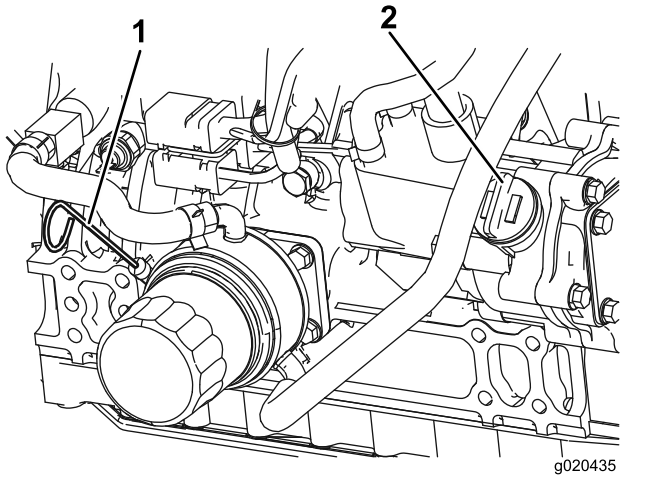

Figure 88
The oil level should be in the safe range (Figure 88).
4. If the oil is below the safe range, remove the fill cap (Figure 88) and add oil until the level reaches the Full mark.